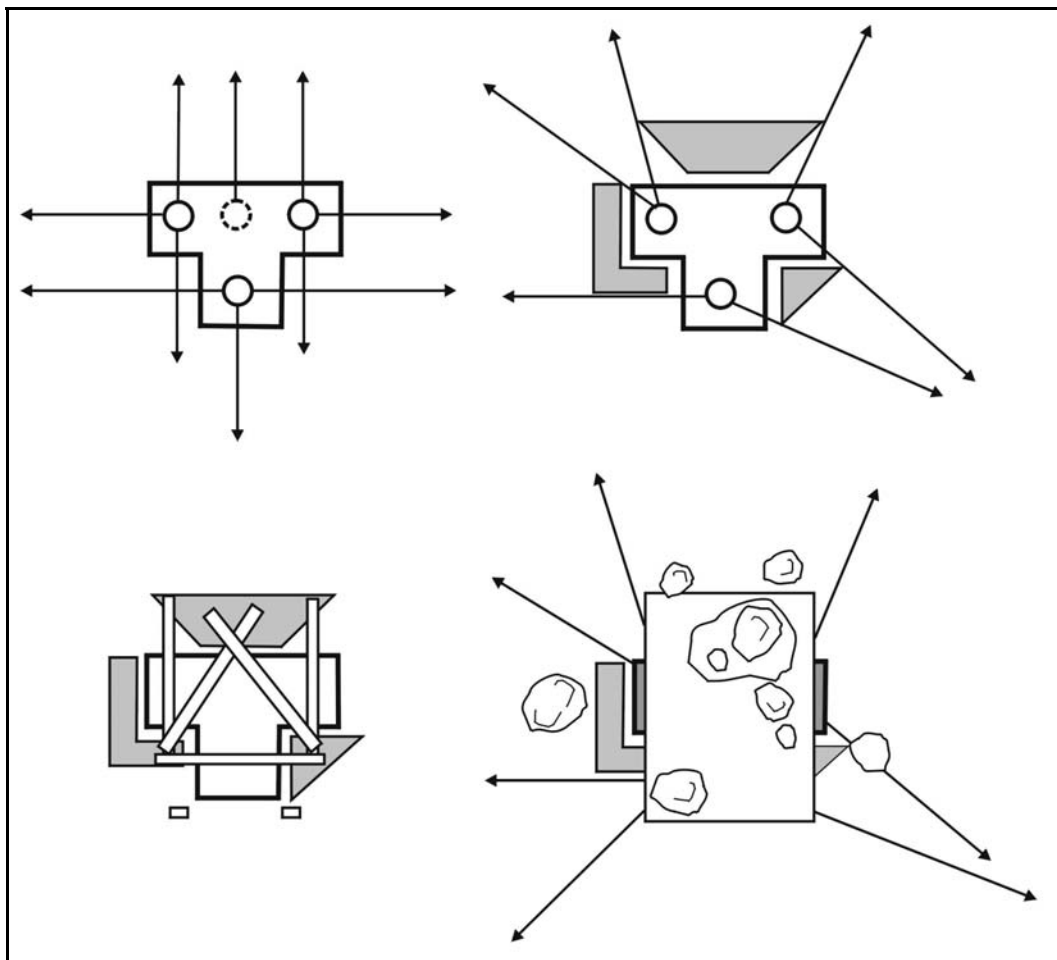

Figure D-16. Three-soldier T-position.
(1) When using three-soldier positions, the leader must consider several things. Either the distance between positions must be increased or the size of the squad's sector must be reduced. The choice depends mainly on visibility and fields of fire. Because the squad leader is in a fighting position that will most likely be engaged during the battle, he cannot exert personal control over the other two positions. The squad leader controls the battle by--
(2) The three-soldier emplacement is a T-position. This basic design can be changed by adding or deleting berms, changing the orientation of the T, or shifting the position of the third soldier to form an L instead of a T (Figure D-16, page D-20). The layout of the position can be oriented to fire on expected enemy avenues of approach from any direction. Berms must not block observation or fire into assigned primary or alternate sectors. Care must be taken to properly support the overhead cover.